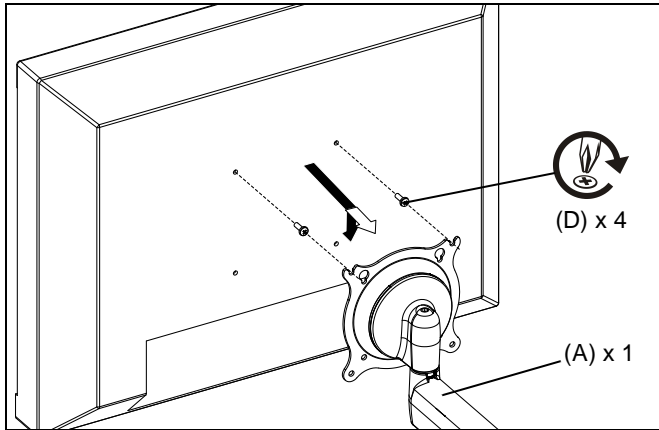

Figure 4
1. Using Phillips screwdriver, install two screws (D) into the upper mounting holes on display (See Figure 4). Thread screws completely into display, then back out 3-1/2 turns.
2. Align display so that screws (D) (installed in previous step) fit into the *upper* 100mm x 100mm mounting cutouts, or *upper* 75mm x 75mm teardrop mounting holes in Centris cup and lower display into place. (See Figure 4)
3. Display will be hanging on upper two screws (D).